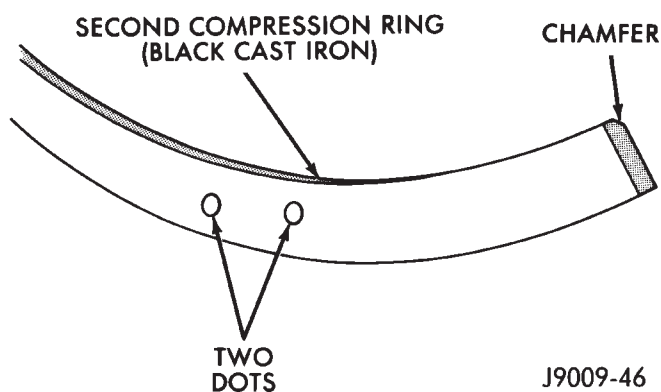

Fig. 23 Second Compression Ring Identification
(8) The second compression ring (black cast iron) has a chamfer on the BOTTOM of the inside edge (Fig. 23). This ring may also have 2 dots located on the top surface.